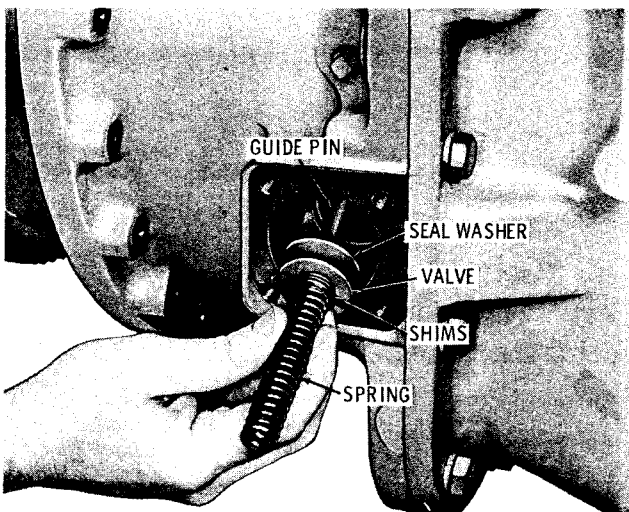

Fig. 7-57. Installing lubrication regulator valve components
(7) Assemble the lubrication regulator valve components as illustrated in figure 7-57. Use the same shim pack (thickness) as was removed in disassembly. Position the valve so that its concave side is toward the valve spring. Install the guide pin into the converter housing.